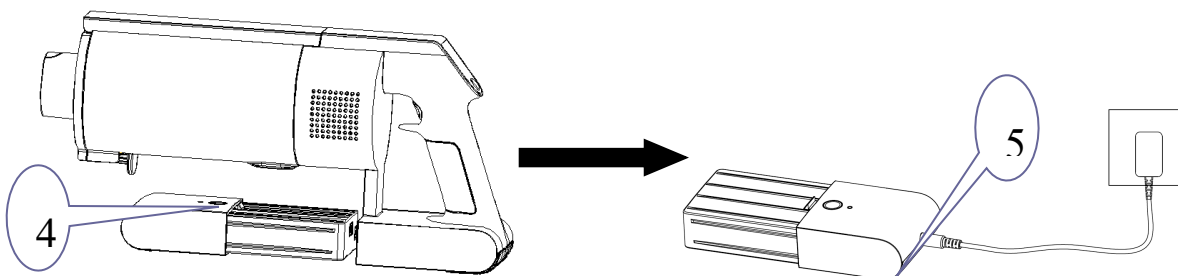

Figure 5-3
5.3 Charging Mode 3: Release the latch (NO.4) to remove the battery pack from main unit and place it on a solid surface. See Figure 5-3. LED will flash white light (NO.5) when charging and flash green light when fully charged. Charging time is 4 to 6 hours.